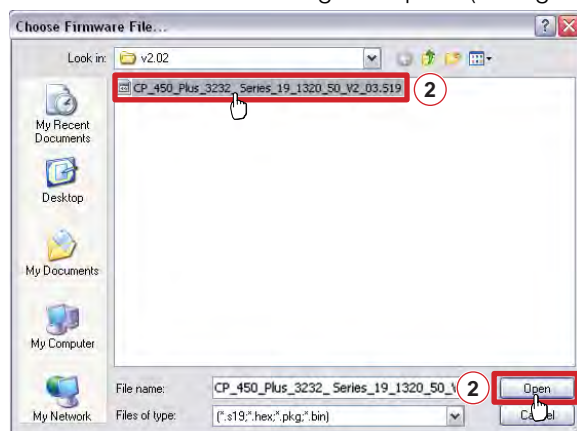

Figure 71. Choose Firmware File Window
1. Select the matrix switcher and click **File > New Firmware for Selected Devices**. The Choose Firmware File dialog box opens (see figure 71).